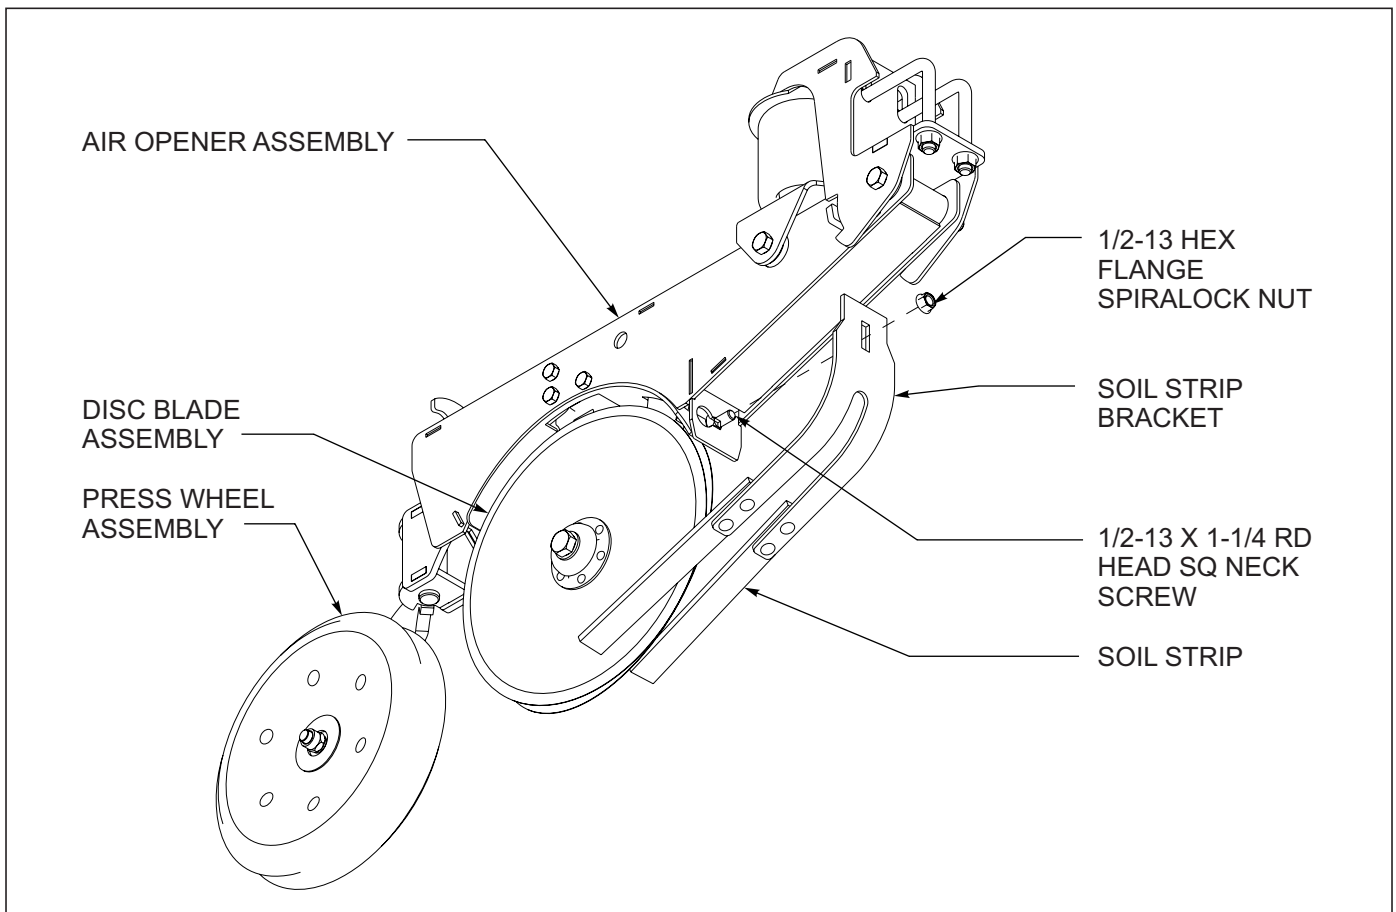

Figure 4-29: Opener Soil Strip Adjustment
4. To adjust the soil strip, loosen the 1/2-13 hex flange spirallock nut at the front of the soil strip bracket (See Figure 4-29.) The bracket may be adjusted up or down to the desired height and side to side to center on the opener blades. Retighten the 1/2-13 hex flange spirallock nut.